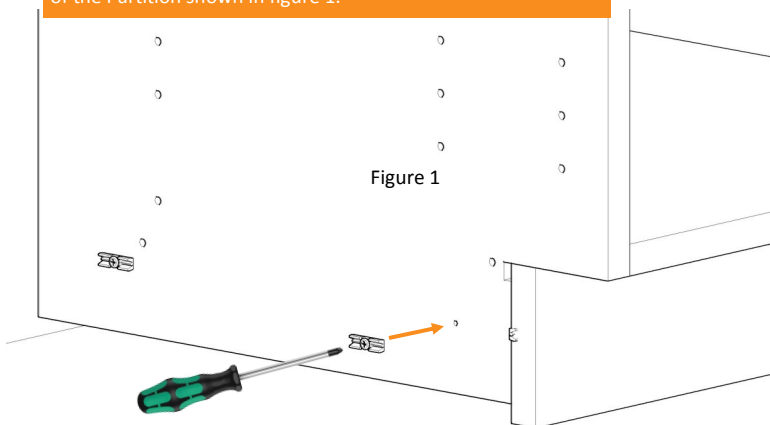
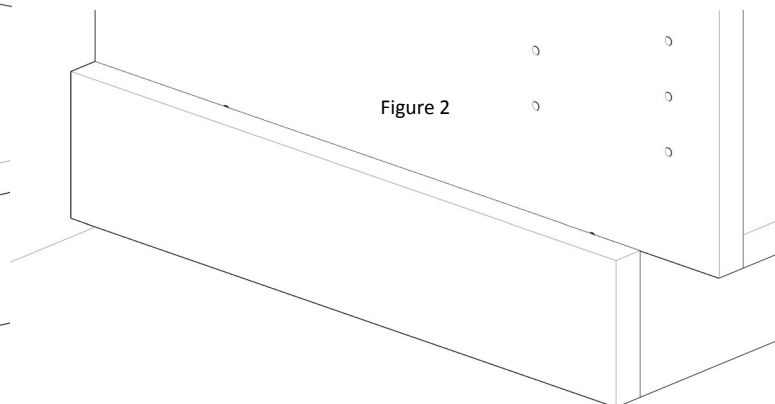
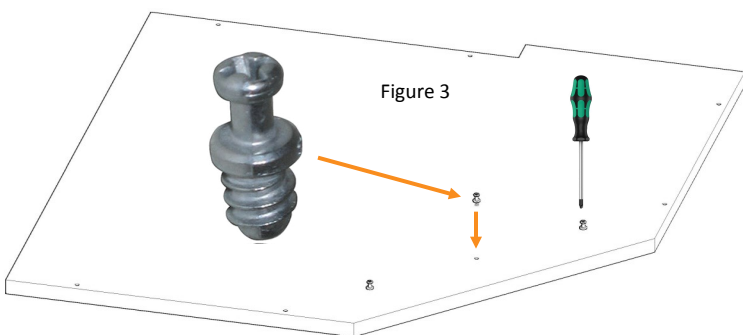

Figure 1
Figure 2
Figure 3
29a. Insert RTA Screw-in Dowel in the lowest hole in each Partition as shown in figure 1.
29b. Insert 19mm Outrigger to both ends of Brace as shown in figure 2.
29c. Slide Brace under and then up into RTA Screw Dowel as shown in figure 3.
Bottom shelves will have a different hole pattern than standard shelves. Use (4) EQ Clips in the Bottom hole location as shown in figure 1. Install shelf over EQ Clips as shown in figure 2.
31a. With a Hammer attach Partition foot on the inside edge of Partition near the front face as shown in figure 3.
32a. Attach the Baseboard Clip in groove of each Partition as shown in figure 1.
32b. Measure total distance from end of Partition to End of Partition for Toe-Kick as shown in figure 2.
33a. Attach the Baseboard Clip to pre-drilled holes on the side of the Partition shown in figure 1.
33b. Side Toe-Kicks come cut to length and ready to install. Using Grooves on Side Toe-Kick snap into place over Baseboard Clip adjusting to be flush with end of front Toe-Kick as shown in figure 2.
34a. Place corner shelf on a flat surface, Screw in the (3)RTA Dowels into the bottom front holes as shown in figure 3.
35c. Attach Top Molding with 1-1/4" screw every 12" using the pre-drilled holes as shown in figure 2.
A. Using a straight edge like a Partition or long Level tool, run it along the wall until you see a gap between straight edge and wall. Loosen the screws in wedgerail around that location and insert two shims as shown in figure 1. Position Shims on top of each other behind wedgerail so wedgerail is lifted equally from top to bottom as shown in figure 2. Hammer shims in equally until face of wedgerail is level and then snap shims off and re-screw wedgerail in as shown in figure 3.